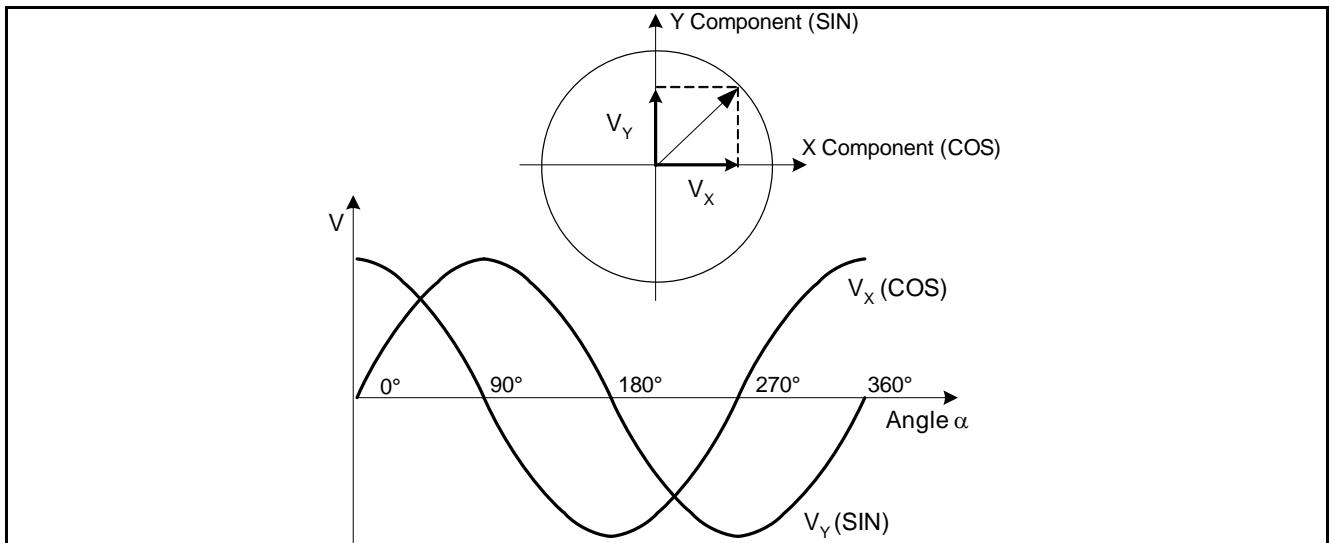

Figure 2 Ideal Output of the GMR Angle Sensor
*Note: In Figure 1, the arrows in the resistor symbols denote the direction of the reference layer, which is used for the further explanation (Figure 2).*